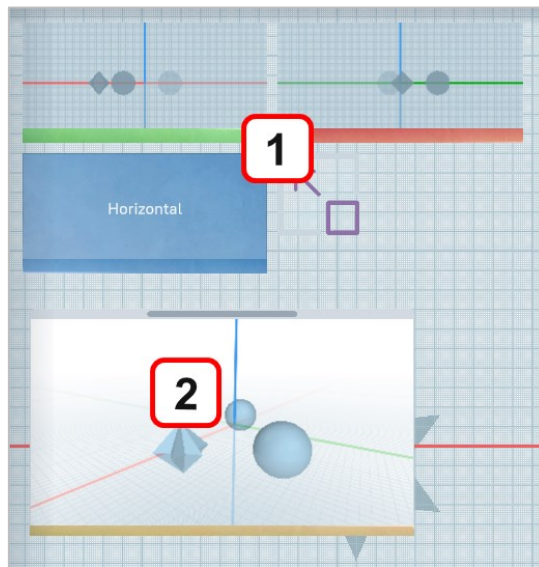

Figure 35 – Orthogonal views panel and minimized perspective view window
Switching between perspective and orthogonal views is done using the orthogonal views panel (1) and the minimized perspective view window (2) (Figure 35).
If one of the orthogonal views is active, then the name of the current active view is displayed in the corresponding window in the orthogonal views panel (Figure 35), and a **minimized perspective view window** is displayed in the scene (2, Figure 35). By clicking on this window, you can go to a perspective view of the scene. This window can be moved around the work area by clicking on it and then by dragging it by the pointer.